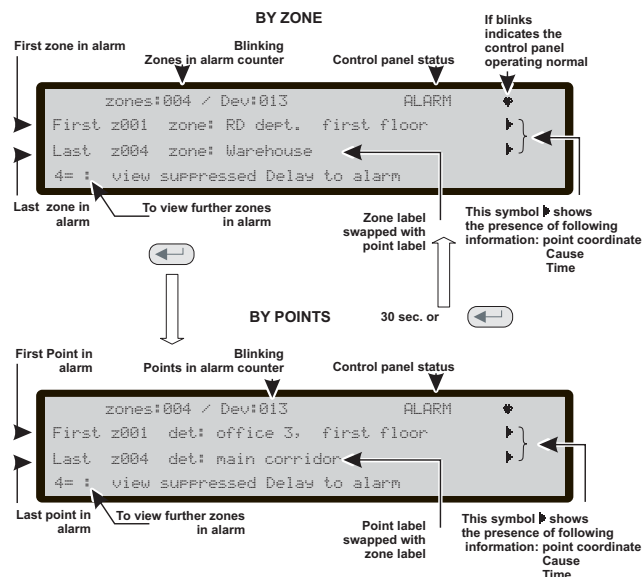

Figure 12 DISPLAY: ALARM STATUS.
- message on fire control panel/Repeater Display (see Figure 12);